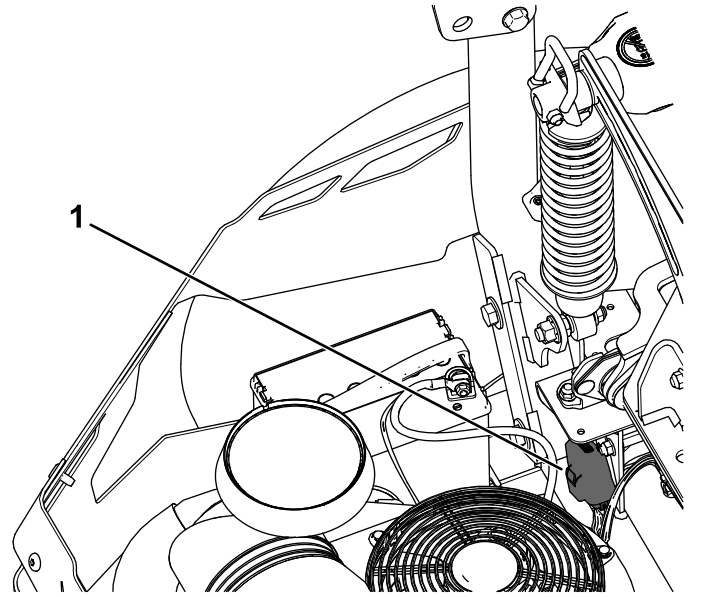

Figure 57
Note: For MyRide machines, ensure that the ground cable does not rub against the trailing arm or lower shock mount (Figure 57).
The fuses are located in the rear, near the engine (Figure 57).
2. Install a new fuse (Figure 57).